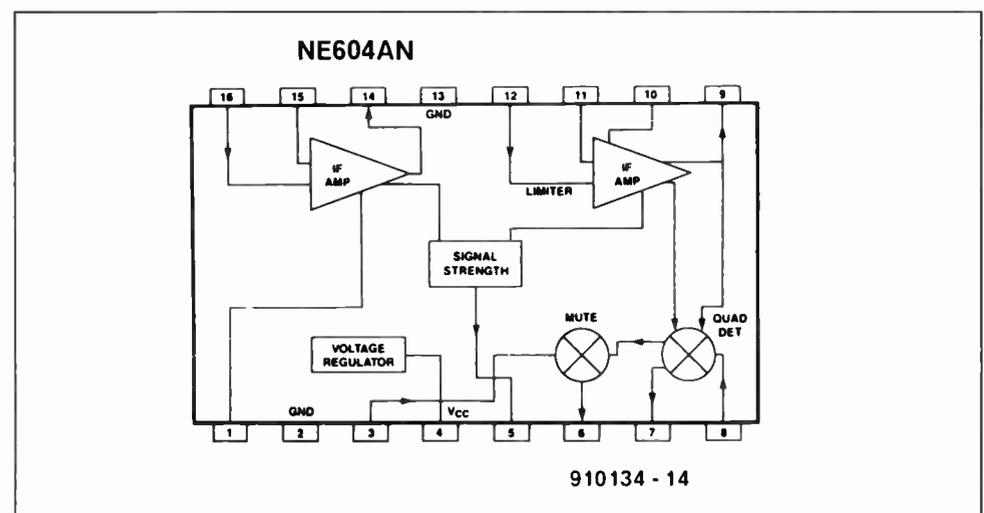

Fig. 4. Block diagram of the NE604A FM IF system (courtesy Signetics).
As already mentioned, the NE604 (IC2) combines a number of functions in this circuit. The block diagram in Fig. 4 tells the whole story. A 10.7-MHz ceramic filter,  $FL_1$ , is inserted between the output of the first IF amplifier and the limiter input of the second IF amplifier on board the NE604. The quadrature (FM) detector is connected to a ready-made 10.7-MHz inductor,  $L_{15}$ , via coupling capacitors  $C_1$  and  $C_2$ . Pin 7 of the NE604 supplies the demodulated signal ahead of the mute circuit (see the block diagram). This unmuted signal may be used for AFSK decoders and other equipment (packet radio TNC) that must always work, irrespective of the set mute level. The signal is brought out to a jumper block marked D, which allows ready connection to a screened cable.